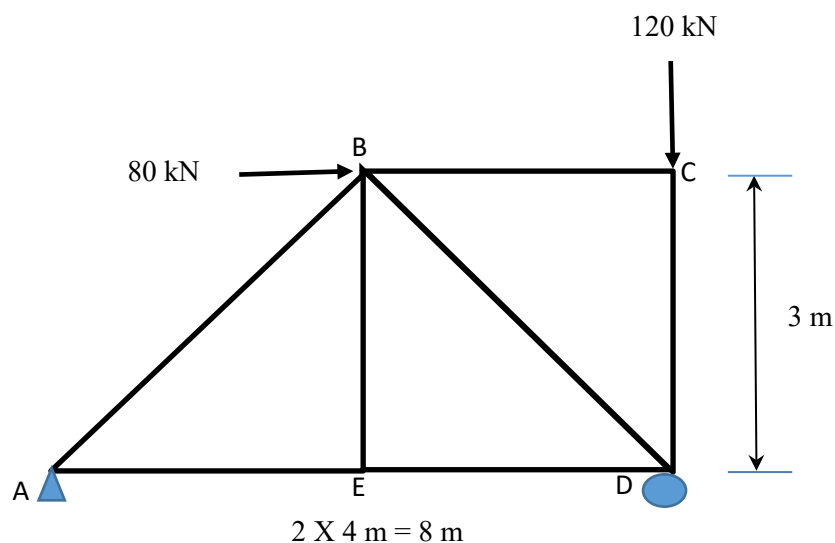

Figure A2(b) / Rajah A2(b)
- (b) A structure frame having a span of 8 m is subjected to a point load as shown in Figure A2(b), calculate :